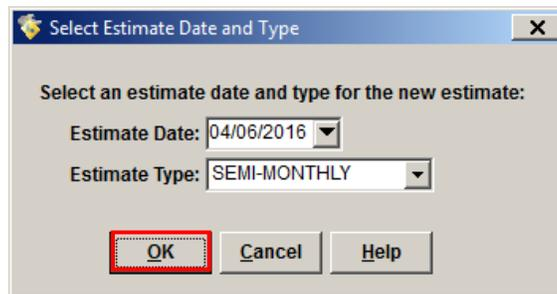
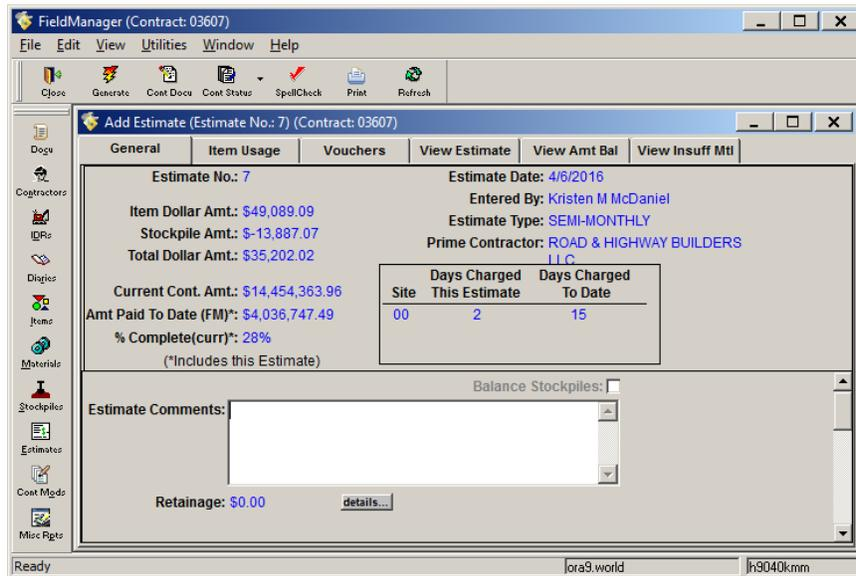

Figure 11-3. Select Estimate Date and Type Window
Figure 11-4. Add Estimate Tab Window – General Tab
2. Select the **Add** button located in the Window Toolbar (Figure 11-2). The Select Estimate Date and Type window opens (Figure 11-3).
5. Click **OK** to continue (Figure 11-3). The Add Estimate tab window opens with the **General** tab displayed (Figure 11-4).
1. Review the estimate details (Figure 11-4).